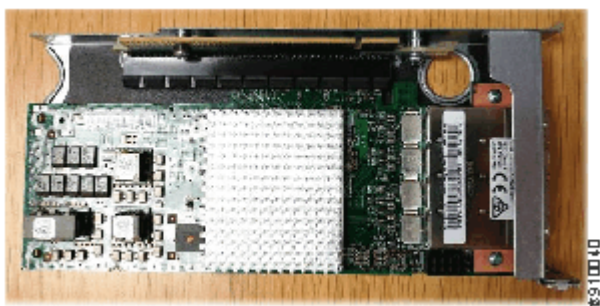

Figure 85. Alignment of the network adapter
10. Align the replacement adapter with the PCIe socket of the riser and press the adapter into place. Ensure that the adapter is fully seated in the riser, as shown in Figure 85 on page 128.